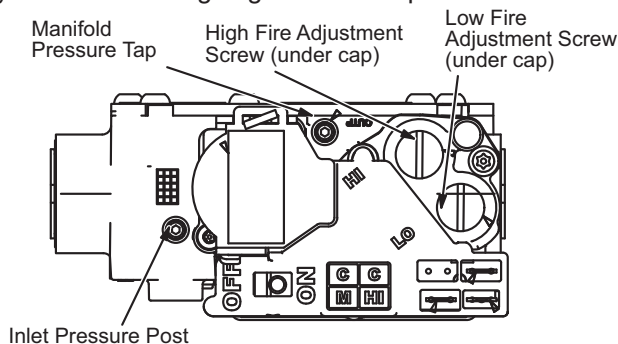

Figure 18. Gas Valve
The two-stage gas valve (Figure 18) is internally redundant to assure safety shut-off. If the gas valve must be replaced, the same type valve must be used. 24VAC terminals and ON/OFF switch are located on the valve. A wire harness connects the terminals from the gas valve to the electronic ignition control. 24V applied to the terminals energizes the valve.
6. Move gas valve switch to OFF position. Do not force. See Figure 18.
8. Move gas valve switch to ON position. Do not force. See Figure 18.
1. Connect test gauge to manifold pressure post (Figure 18) on gas valve.
4. If necessary, make adjustments. Figure 18 show location of high fire and low fire adjustment screw.